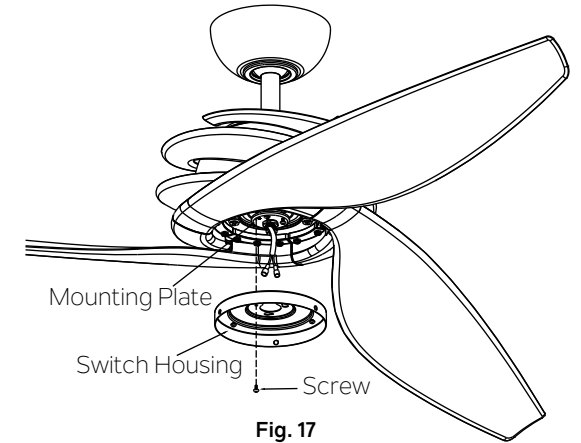

Fig. 17
Step 1. Remove one screw on the mounting plate, which near the red dot label and loosen the other two (do not remove). Place the two slot holes on the switch housing over the 2 screws previously loosened from the mounting plate. Rotate the switch housing until it locks in place at the narrow end of the key holes. Securely by tightening the 2 screws previously loosened and the one previously removed. (Fig. 17)